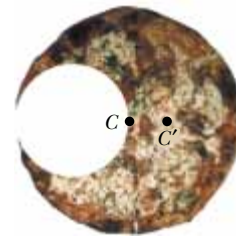

Figure P12.6
6. A circular pizza of radius R has a circular piece of radius $R/2$ removed from one side, as shown in Figure P12.6. Clearly, the center of gravity has moved from C to C' along the x axis. Show that the distance from C to C' is $R/6$. (Assume that the thickness and density of the pizza are uniform throughout.)